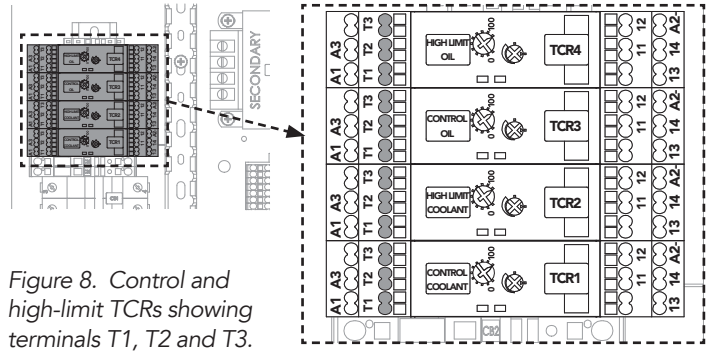

Figure 8. Control and high-limit TCRs showing terminals T1, T2 and T3.
3. Using the ohmmeter, measure the resistance between TCR terminals **T1** and **T2** (See Fig. 8):